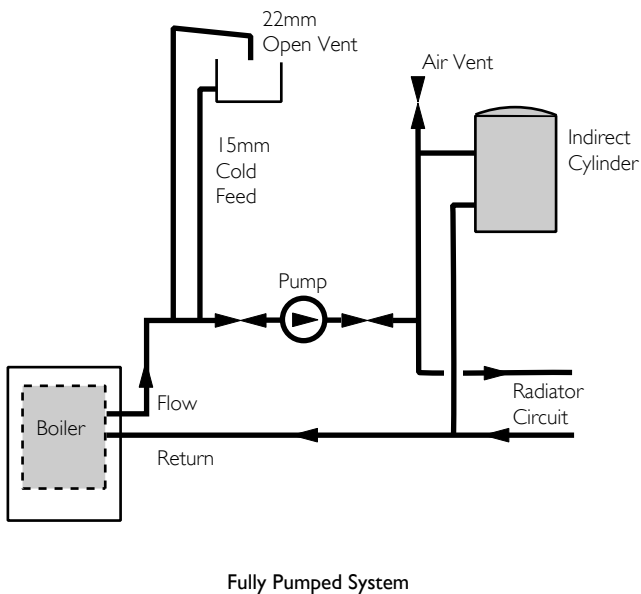

Fig. 5
4.5 Fully Pumped Open Vent System (Fig. 5)